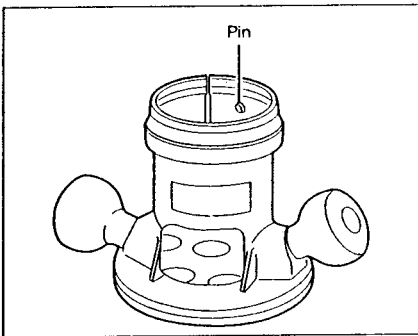

Fig. 7
- Connect the motor unit cord to the outlet in the handle. (Fig. 7)